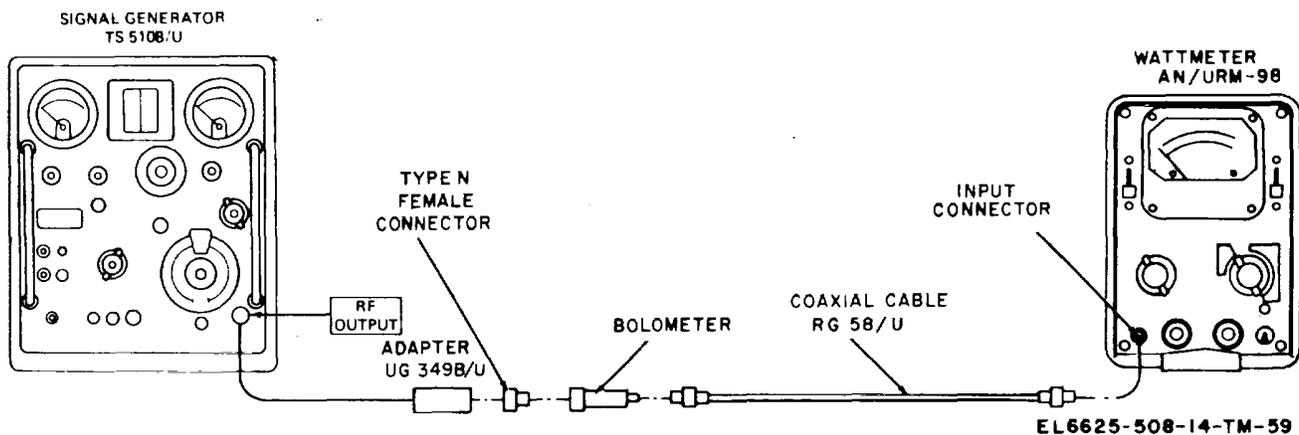

Figure 6-30. Attenuator accuracy test connections.
- (1) Wattmeter AN/URM-98 with bloomer
- (2) Adapter UG-349B/U
(3) Coaxial Cable RG-58/U
(4) Coaxial Cable CG-92D/U
*b. Test Connections and Conditions.* Connect the equipment as shown in figure 6-30. Observe cautions specified in subparagraph b of paragraph 6-18.